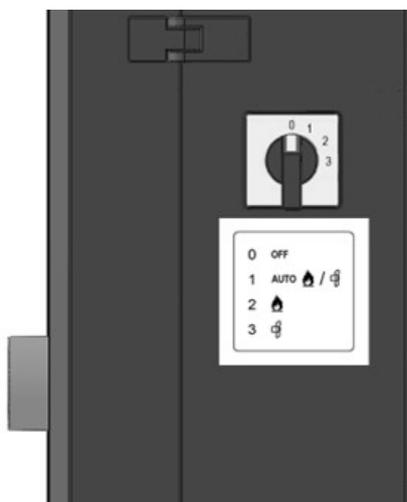

Fig. 12.2-3 Operation of selector switch
After turning on the appliance (see fig. 12.2-3), the program of the burner relay is activated. The burner control (40) then checks the rest position of the wind vane (5) and checks that there is no flame (rest position flame control), after which the fan (3) is started. After a pre-programmed pre-purge period, the ignition will be activated, after which the gas valves in the gas block (31) are opened.